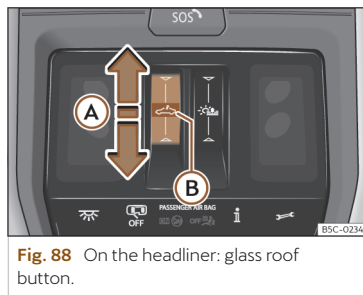

Fig. 88 On the headliner: glass roof button.
- Automatic movement: slide your finger back over the functional area  >>> **Fig. 88** .
- Before approx. 5 seconds after activation of the anti-trap function, slide your finger forward over the functional area ➡ >>> **Fig. 88** (A) and keep pressed until the sunroof is fully closed.